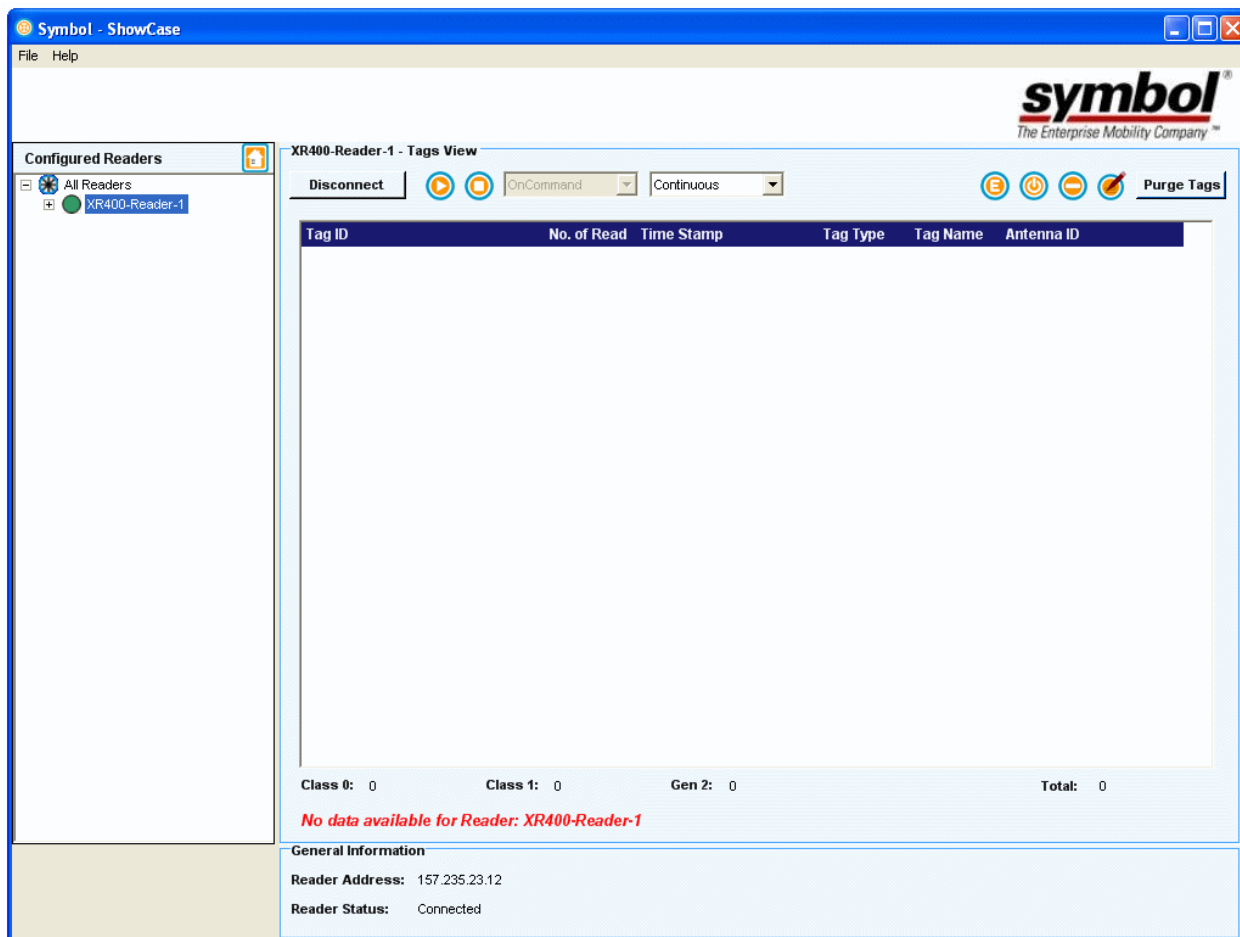

Figure 4-3. XR400-Reader-1 Connected Screen
- Click **OK** when the reader has successfully connected, the *XR400-Reader-1 Connected* window appears (see Figure 4-3).